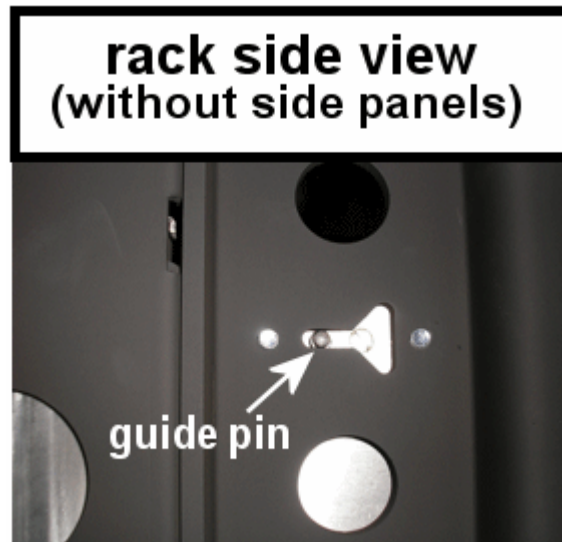

Figure 52: Rack Outer Side View of Installed Rail
- Note the rail guide pins will sit in the Rack key hole (see Figure 52).